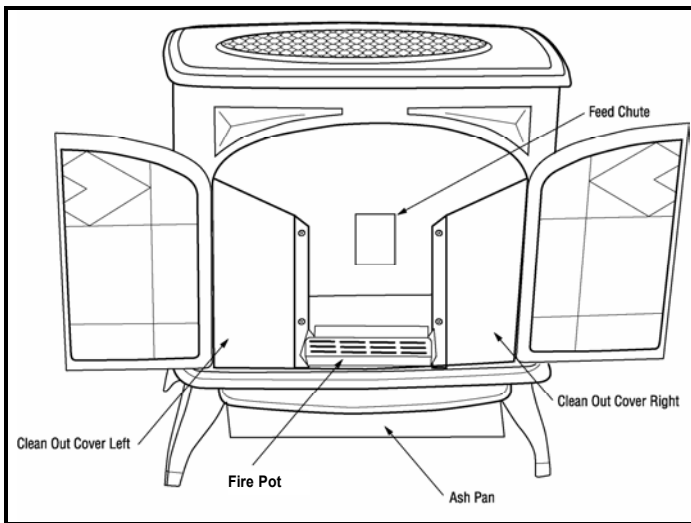

FIGURE 12
- b. Open door and remove clean out cover screws. To remove, simply unscrew and lift out from each side (see Figure 12). Clean one side at a time. With covers removed, leave the door open and push the “Clean” button. Let heater run 30 seconds, push to “Off,” and replace cover. Remove the remaining clean out cover and repeat procedure for other side.
2. **Cleaning the Exhaust Fan Blade & Heat Exchanger:** The exhaust blower should be checked for excessive fly ash buildup. Regular and routine maintenance utilizing the clean out feature will keep the exhaust blower housing and fan blades clean. This cleaning can only be done when the heater is not burning. For best results, run the fan in the "Clean" position with the door open for approximately 45 seconds or until ash is no longer being picked up by the fan. Remember, you must always check the clean out cap on the tee after utilizing the clean feature (see Figure 12). **(See Figure 16 for routine stove clean out and maintenance.)**
cause a fire! You must clean the heat exchanger tubes (see Figure 12) regularly to ensure a good air to fuel ration, thus allowing the heater to "breathe" properly. You must also check the tee and vent pipe to see that they are not clogged and full of ash.